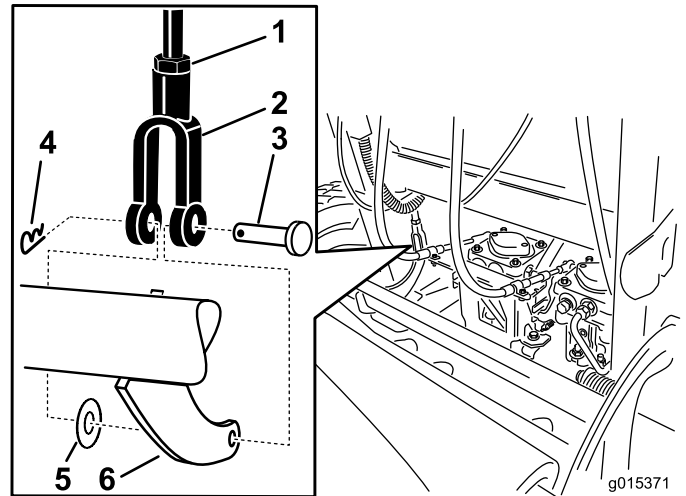

Figure 65
5. To adjust the brake, remove the hair pin cotter and clevis pin from the lower brake lever and yoke (Figure 65).
6. Loosen the jam nut (Figure 65).
7. Rotate the yoke. To tighten the brake, rotate the yoke up. To loosen the brake, rotate the yoke down (Figure 65).
8. Secure the yoke to lower brake lever with the hair pin cotter pin and clevis pin (Figure 65).
9. Tighten the jam nut (Figure 65).